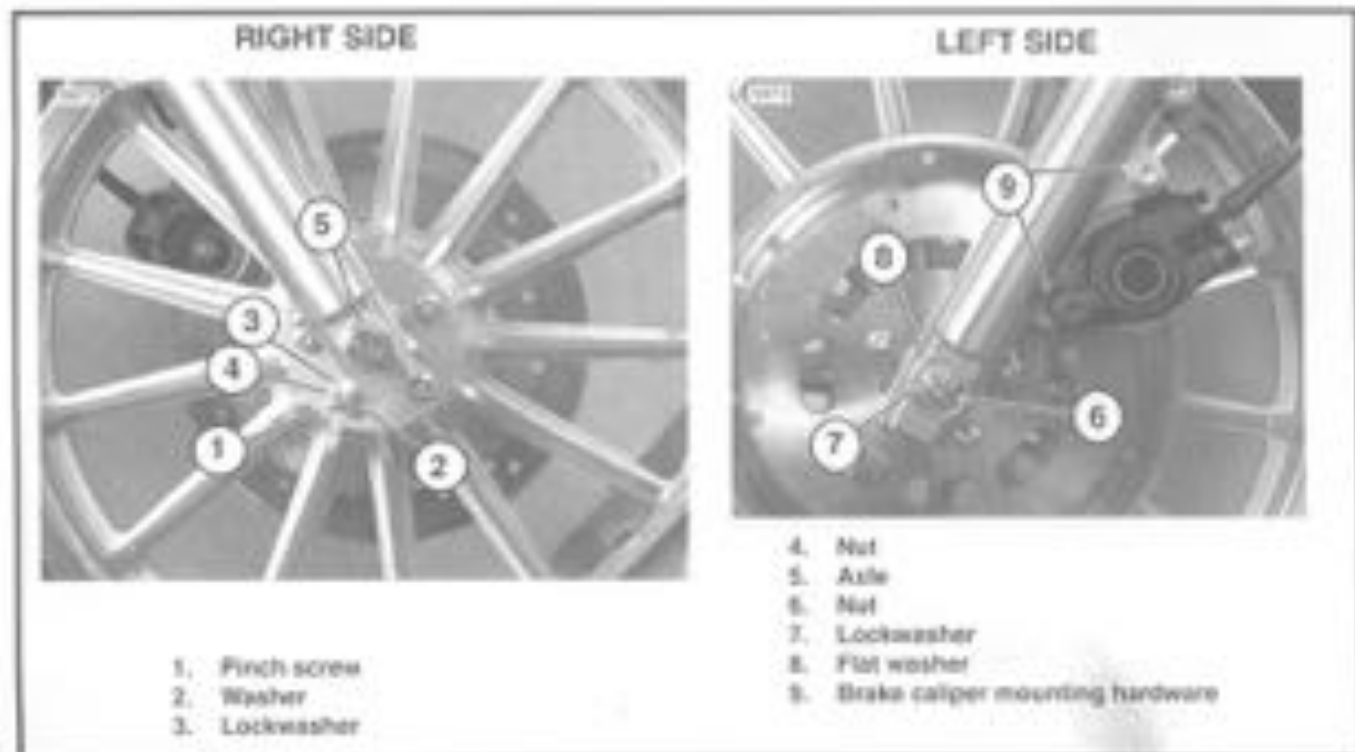

Figure 2-2. Front Wheel Mounting
See Figure 2-2: Check tire inflation pressure at least once each week. At the same time, inspect tire tread for punctures, cuts, breaks and other damage. Repeat the inspection before road trips.
REMOVAL (Figure 2-2)
4. See Figure 2-2. Tighten pinch screw nut (4) to 21-27 ft-lbs (28-37 Nm) torque.
5. Install brake caliper. Tighten brake caliper mounting screws (9) to 25-30 ft-lbs (34-41 Nm) torque. For more detailed information, see FRONT BRAKE CALIPER INSTALLATION, in this section.